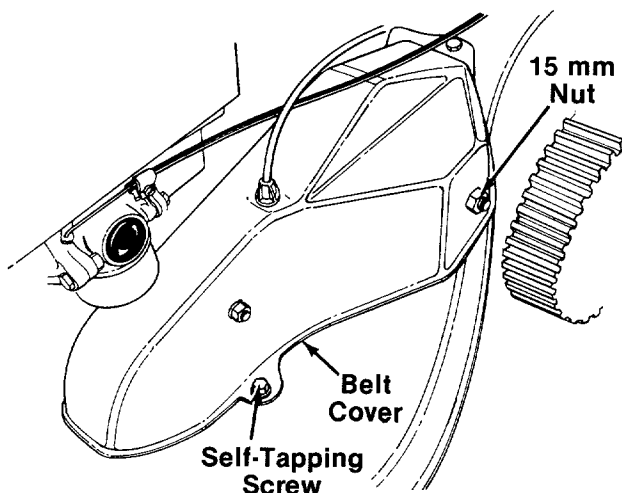

FIGURE 26.
4. Remove the 15 mm nut which holds the three speed hub to the belt guard. See figure 26.
5. Remove the three screws which hold the belt guard (and idler assembly). See figure 26.